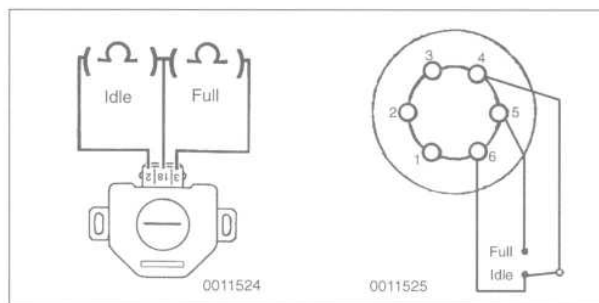

Fig. 8. Throttle position switch terminal identification for cars with manual transmission (left) and automatic transmission (right).
3. On cars with automatic transmission, turn the ignition on and check for supply voltage (VDC) between terminal 5 and ground and between terminal 6 and ground. If voltage is not present, check the wiring from the ECM. See Fig. 8.
4. Check for continuity at the switch terminals with the throttle at idle and again at the full open position. See **Fig. 8** for test terminals. Adjust or replace the switch if any faults are found.